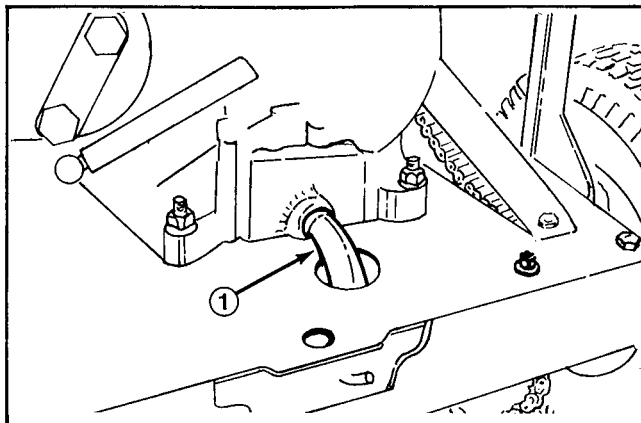

Figure 11
5. Remove drain plug from elbow (Fig. 11).